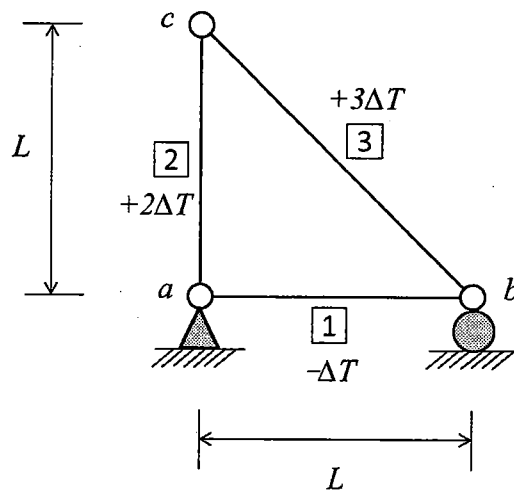

Figure 1
1. Each member of the truss has a uniform cross-sectional area  $A$  and a constant Young's modulus  $E$ . The original lengths of [1] and [2] are  $L$ , while the original length of [3] is  $\sqrt{2}L$ . Assume each member is pin connected. This simply supported truss shown in **Figure 1** is subjected to the change in temperature of the member. For example, the temperature of [1] is changed by  $-\Delta T$ . In addition, the temperatures of [2] and [3] are changed by  $+2\Delta T$  and  $+3\Delta T$ , respectively.